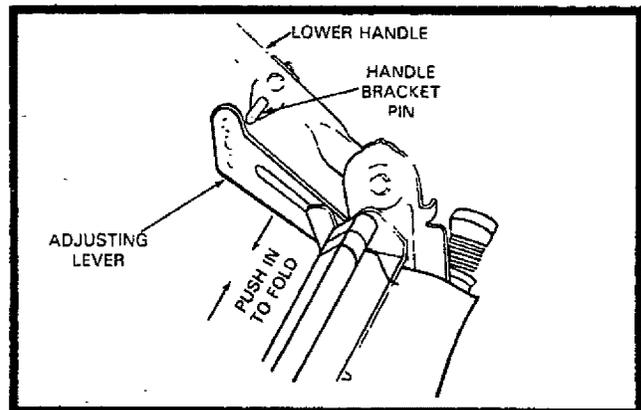

FIG. 15
- To fold, push in on the adjusting levers to clear the pins, then move handle forward (See Fig. 15).